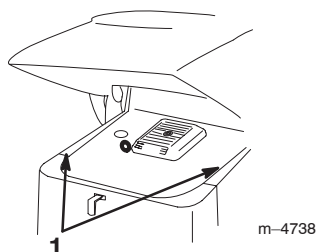

Figure 18
2. Slide the side screens (Fig. 18) up and out of the slots in the front screen and frame.
Slide the side screens (Fig. 18) into place in the slots in the front screen and frame.